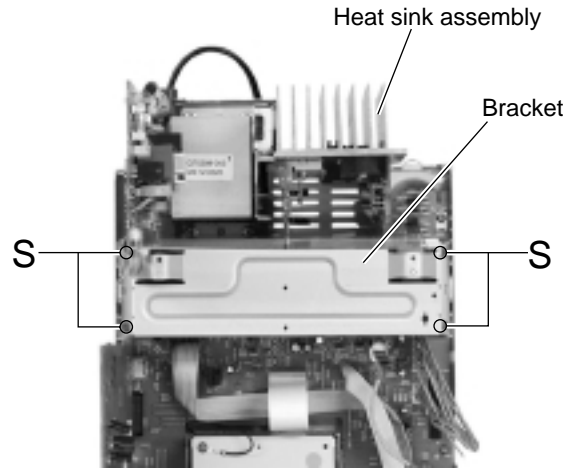

Fig.19
■ Removing the heat sink assembly (See Fig.19 and 20)